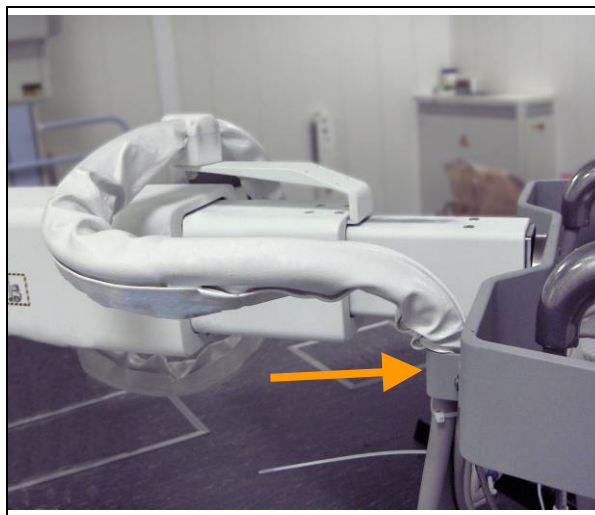

Figure 3
- (4) Cover the cables with the new cable hose.
- (5) Fix the hose clamp (see Figure 3) with the two screws.